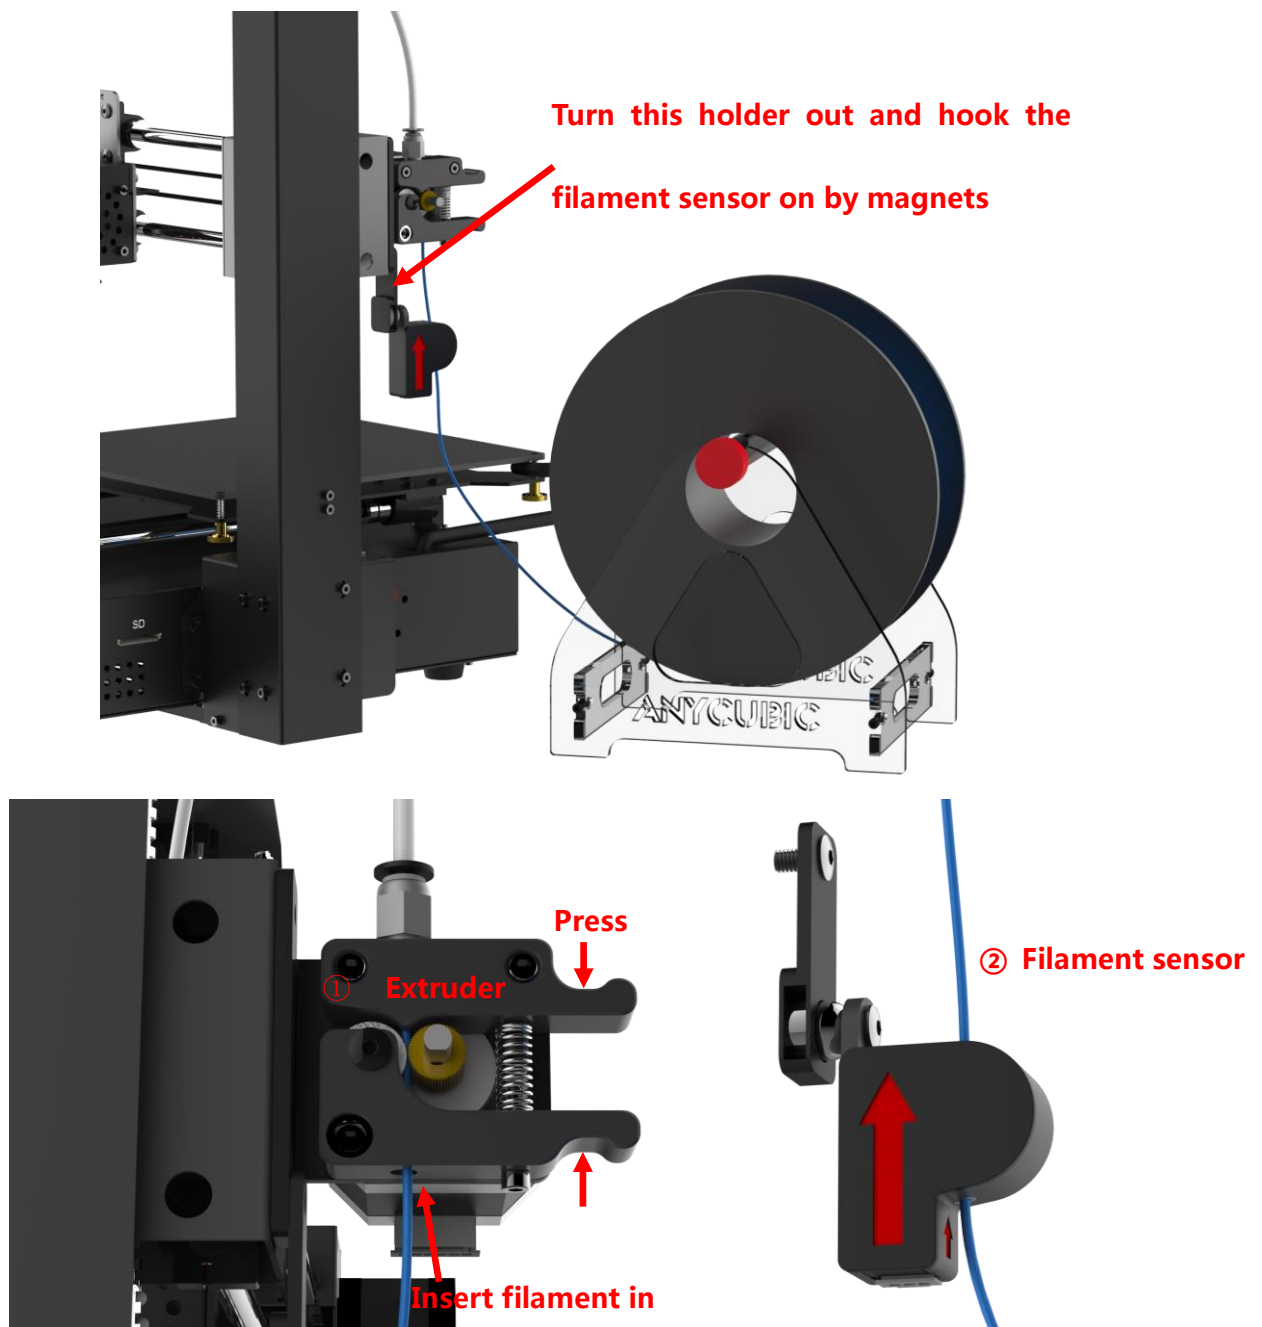

Figure 6
- (2) As shown in **Fig.6**, manually install the filament spool to the spool holder. Pass the filament through the filament sensor. Insert the filament into the extruder and Teflon tubing, but do not fully reach it into the hotend (until preheat the hotend later).
- **Now, as the temperature rises, please manually insert the filament through the Teflon tubing all the way into the hotend. (Refer to previous Fig.6)**